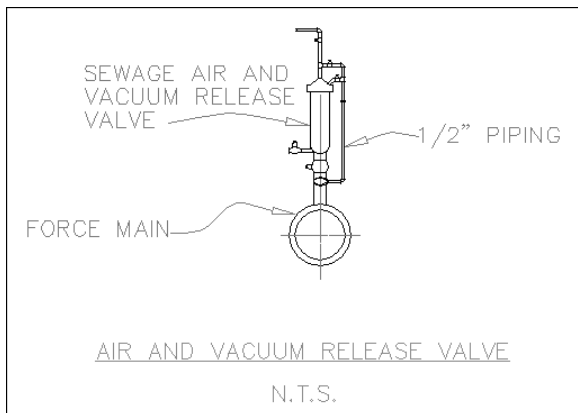

Figure 13-9: An air and vacuum release valve
2. Save the file as ab13-02.dwg in your AutoCAD Bible folder. This is an air and vacuum release valve, as shown in Figure 13-9.